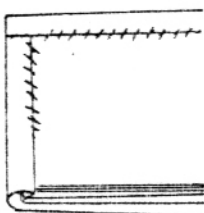

Figure 3.
10. Turn down the binding over the layers and, folding under the edge, hand sew it to the backing with a loose whip stitch. Make sure the needle penetrates the two back layers and the lining. See Figures 3 and 4.